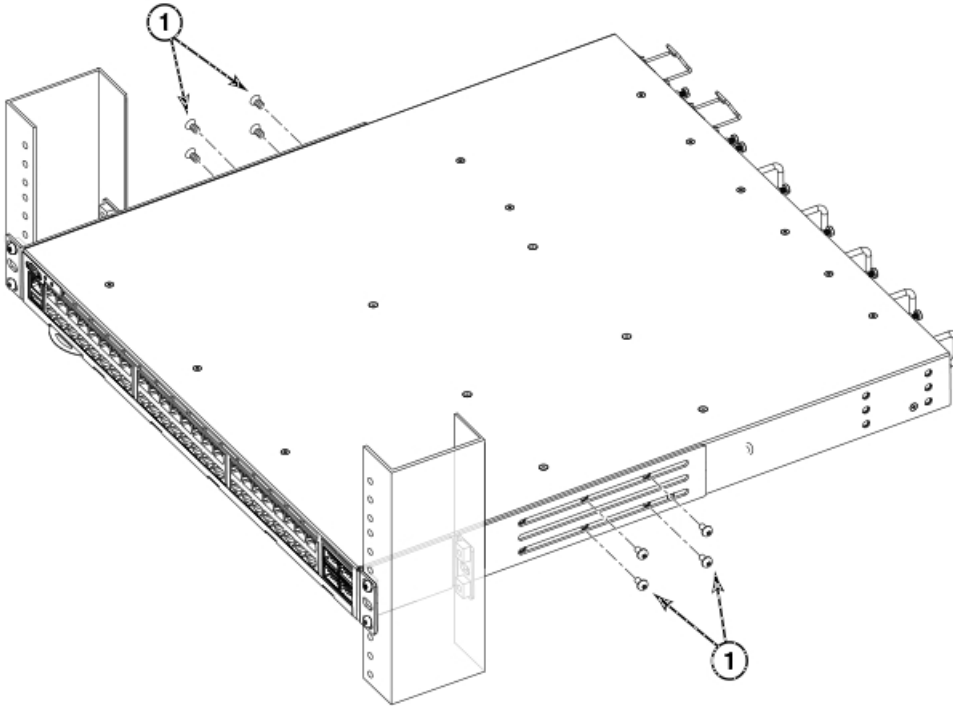

Figure 18. Attaching the rear brackets to the device
1. Align the right rear bracket to the right rear of the device and use four 8-32 x 5/16-in. panhead screws to attach the bracket to the device, as shown in Figure 18 on page 32. Be sure to insert the screws through the upper and lower slots in the bracket.